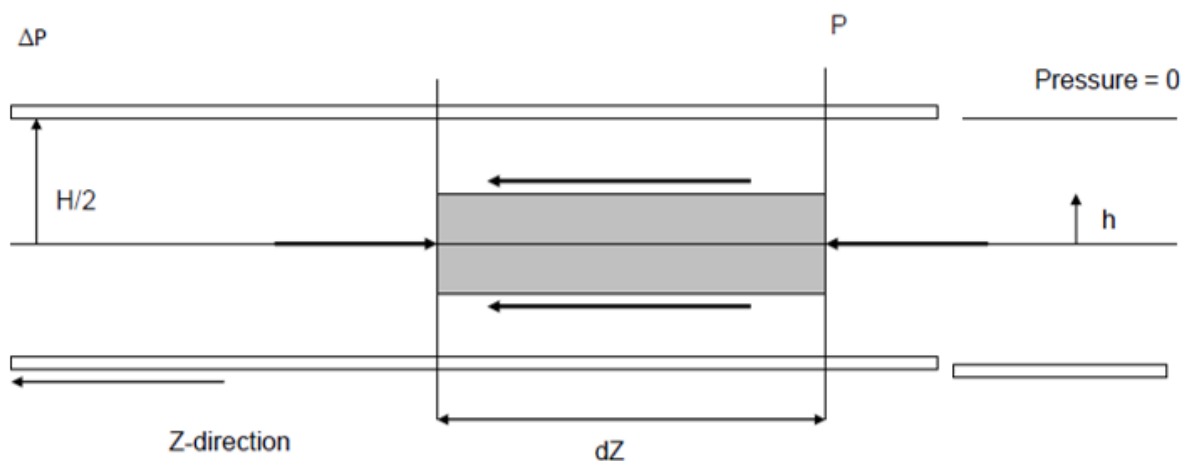

Figure 4: Illustration of Newtonian fluid flowing between two parallel plates.
- (c). Figure 4 illustrates an incompressible, Newtonian fluid flowing between two parallel plates. Draw balances of forces and pressure on a fluid element moving between two parallel plates, state general assumptions need to be made and derive quantitative relationships of the shear stress and shear rate for the Newtonian fluid between two parallel plates.